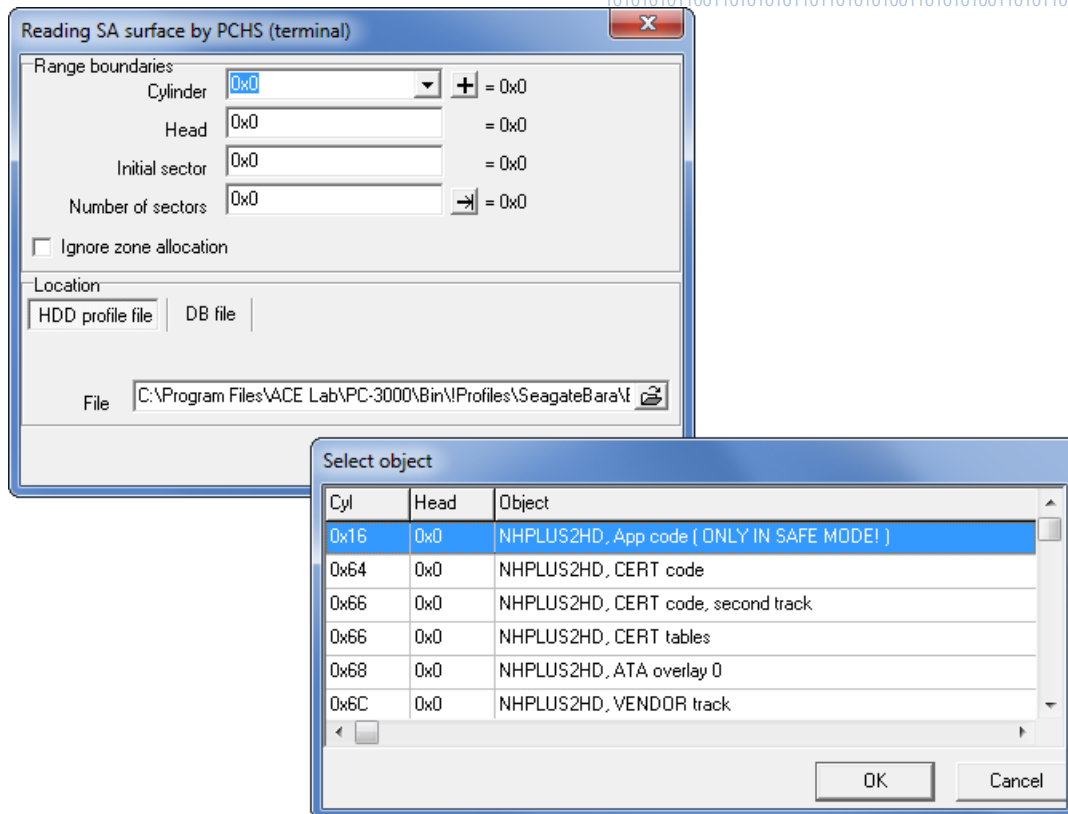

Fig. 6.8. Surface reading.
- ♦ **Working with SA surface by PCHS (terminal)** – the menu contains some features for working with the service area surface via terminal based on physical parameters: «Reading SA surface» and «Writing SA surface» allows reading from, and writing to, a specified PCHS zone of the service area; «Reading tracks group» and «Writing tracks group» allows the user to read or write a range of tracks in the service area having specified the initial and final tracks and SA SPT. Please see below a sample surface reading dialog (Fig. 6.8).